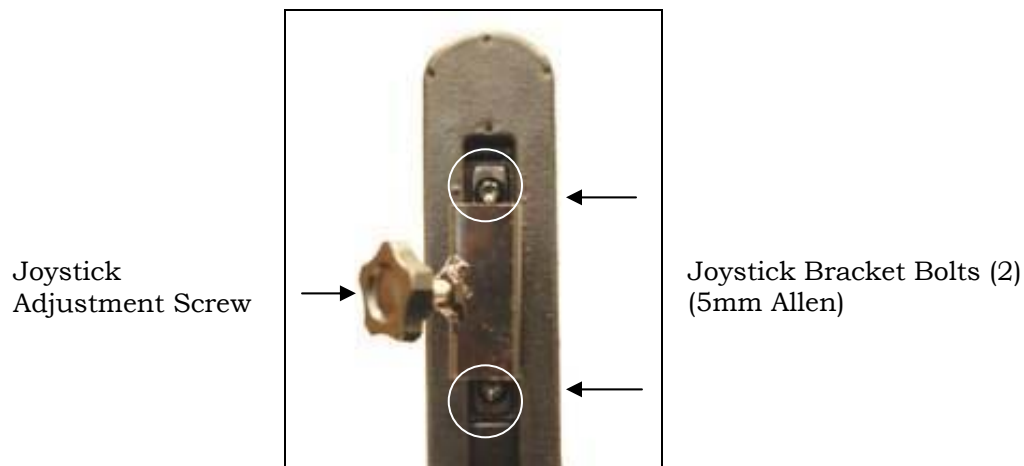

Figure 14
5. Remove the two bolts connecting the joystick bracket to the armrest. See figure 14.